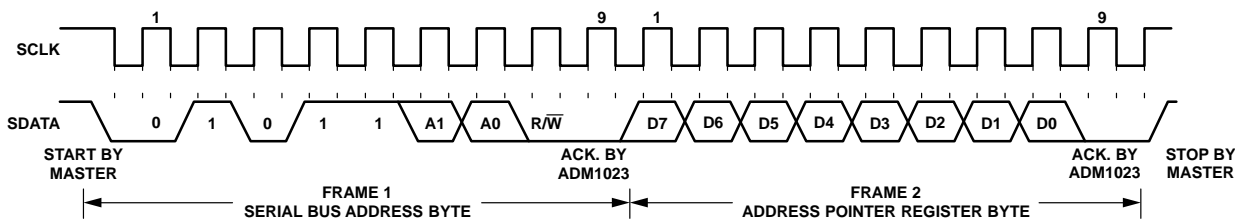
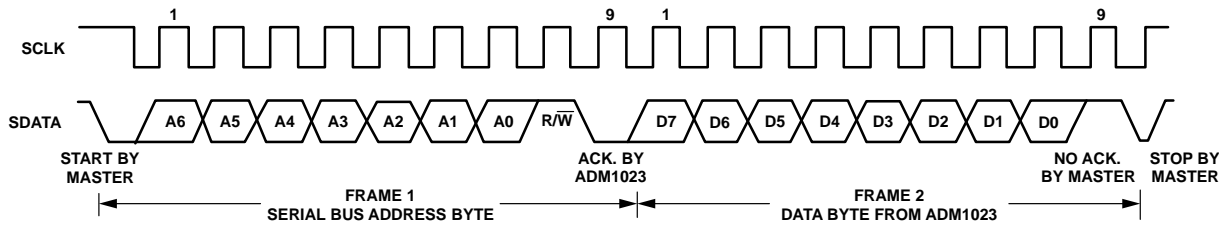

Figure 16. Writing to the Address Pointer Register Only
Figure 17. Reading Data from a Previously Selected Register
1. If the ADM1023's address pointer register value is unknown or not the desired value, it is necessary to set it to the correct value before data can be read from the desired data register. This is done by performing a write to the ADM1023 as before, but only the data byte containing the register read address is sent, as data is not to be written to the register. This is shown in Figure 16. A read operation is then performed consisting of the serial bus address, R/\bar{W} bit set to 1, followed by the data byte read from the data register. This is shown in Figure 17.